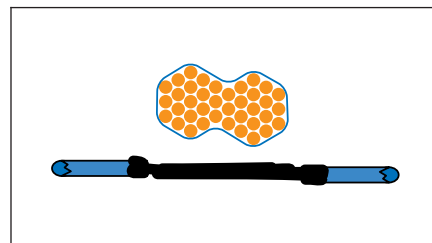

Figure 5 Cover with Heat-Shrinkable Tubing
9. Position insulative sleeving, shrink-sleeving, or protective tubing over the splice, assuring that the splice is centered in the length of the sleeving/tubing. Apply heat to shrink-sleeving as necessary to achieve a tight fit over the splice. Position protective tubing (if used) over shrink-sleeving and mechanically secure as appropriate. (See Figure 5.)